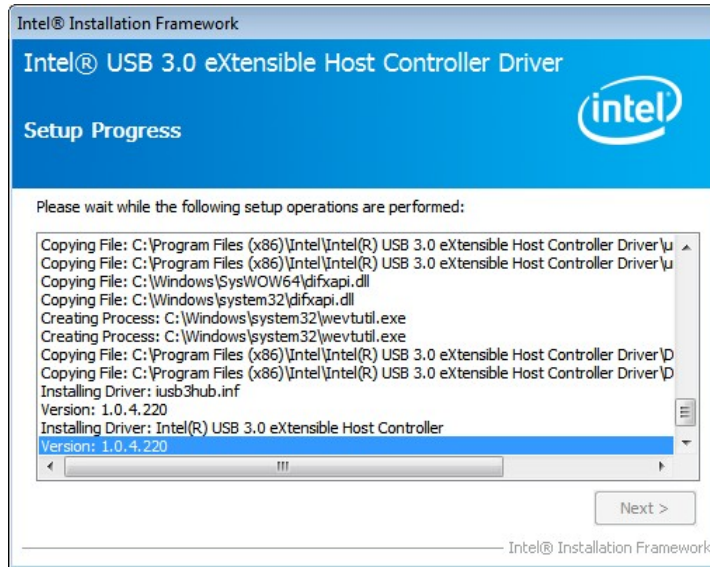

Figure 6-22: USB 3.0 Driver Setup Operations
Step 11: **Setup Operations** are performed as shown in **Figure 6-22**.